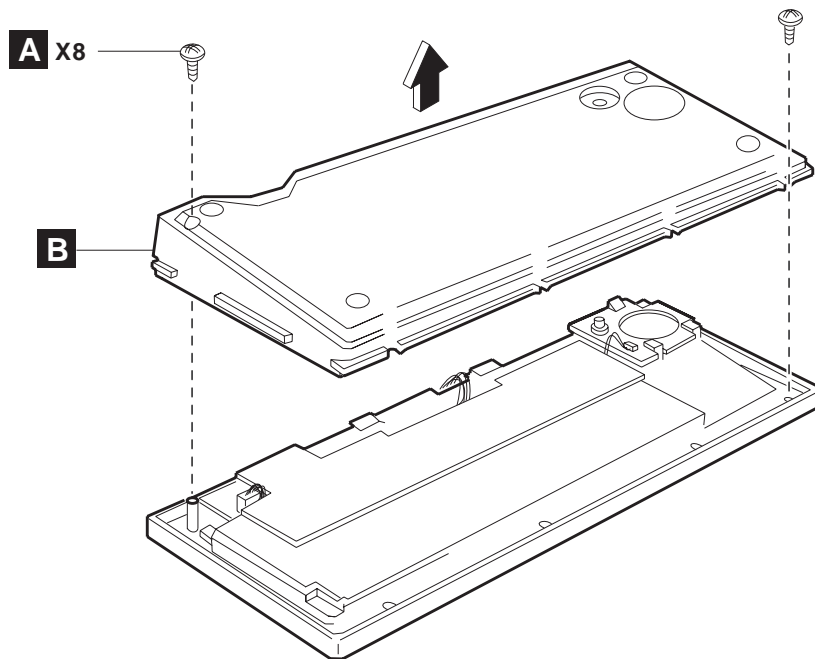

Figure 53. USB keyboard-V components – part 1
2. Remove the eight screws (see **A** in Figure 53).
3. Lift the bottom cover assembly (see **B** in Figure 53).